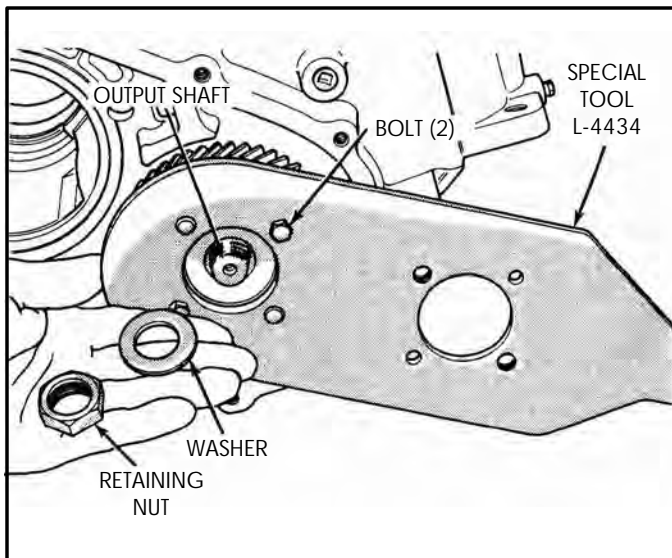

Figure 177
4. Install output shaft gear holding tool, as shown in Figure 177, install the washer and nut and torque nut to 271 N·m (200 ft.lb.).